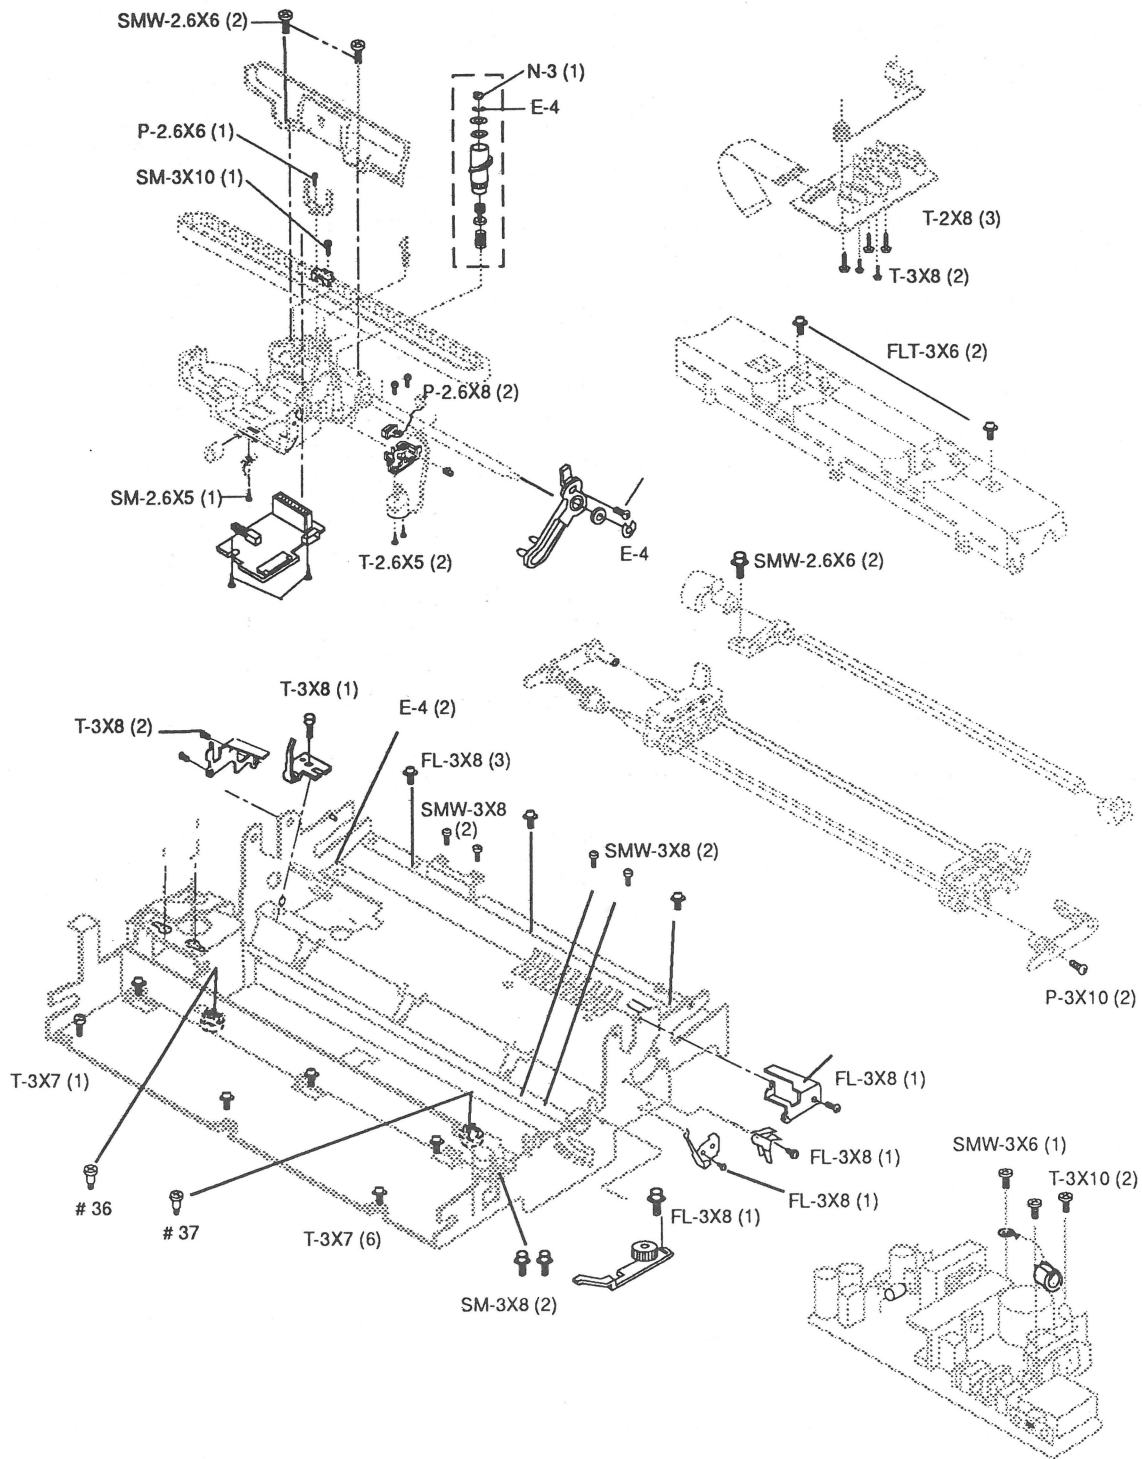

Figure 18
□ QUICK REFERENCE—SCREWS (Figure 18)
Note: The Miscellaneous Hardware Kit is not pictured in this Illustrated Parts List. **The "Quick Reference Screws—Figure 18" at left is for reference only and is not associated with this page.** The Miscellaneous Hardware Kit contains some (but not all) of the screws shown in Figure 18.